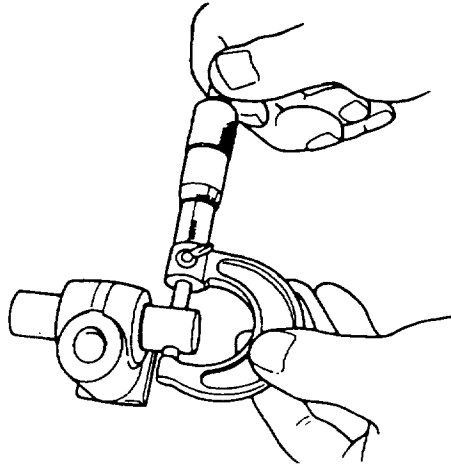

Figure 6-42 Valve rocker arm
- 1) Valve rocker arm support. Measure the O.D of the shaft and the I.D. of the valve rocker arm. Replace the valve rocker arm shaft or valve rocker arms if it exceeds the service limits (see Figure 6-42).